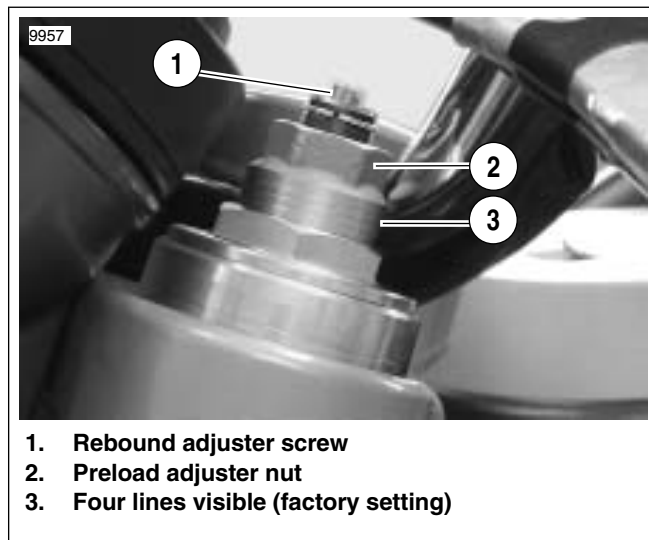

Figure 1-29. Front Fork Preload And Rebound Adjuster
1. Check number of lines (3) to be showing for your load condition. Refer to Table 1-9, or Table 1-10.
2. See Figure 1-29. Adjust preload by turning the adjuster nut (2) with a wrench.
1. See Figure 1-29. Using a screwdriver, turn the slotted dial (1) clockwise until it stops. This is the maximum rebound damping setting.